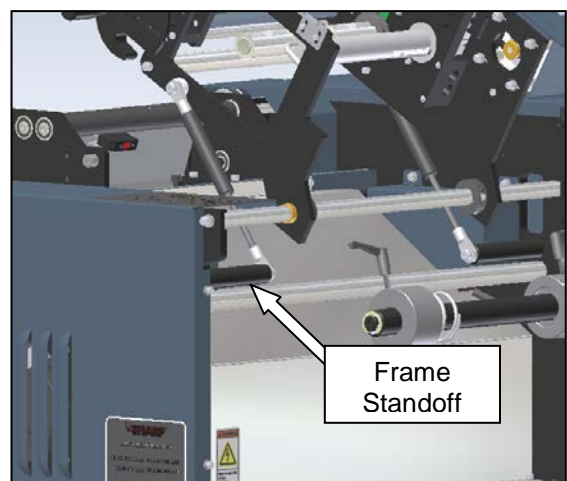

Figure 3-268. Frame Standoffs
- Remove the rod end clevis from each end of the gas spring, and install on the new spring (Figure 3-268).